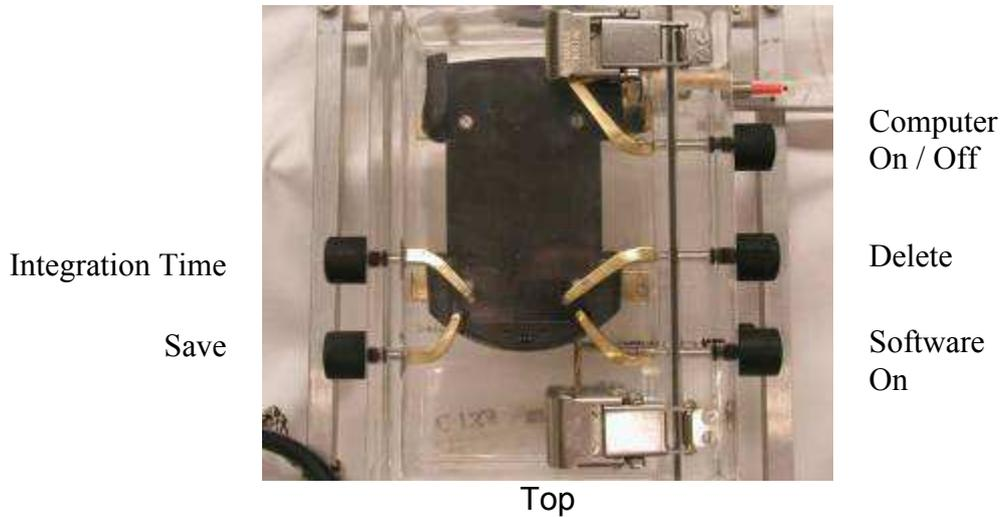
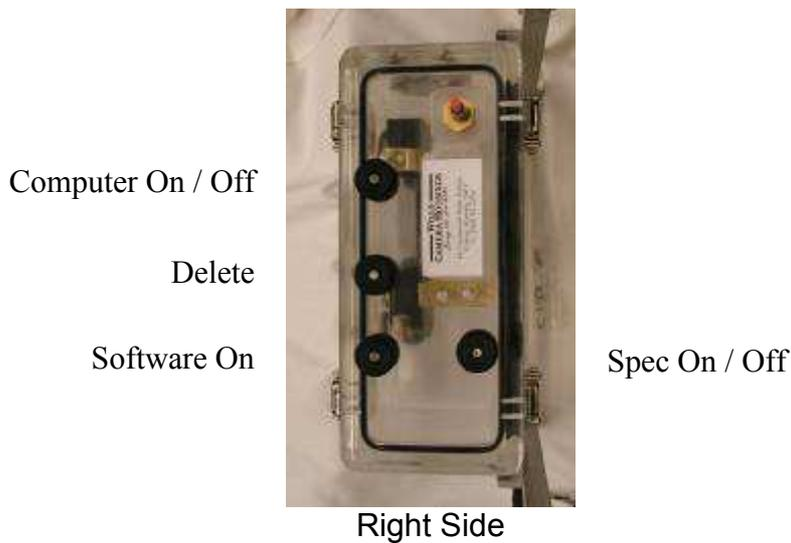

Figure 6 Front view of underwater housing with explanation of knob functions.
Figure 7 Right side view of underwater housing with explanation of knob functions
- Our current iPAQ needs a soft reset in some circumstances (see below). As built with six knobs the rig must be removed from the housing to be reset. We have asked Murray to add an external reset knob (Figure 6 and Figure 7).